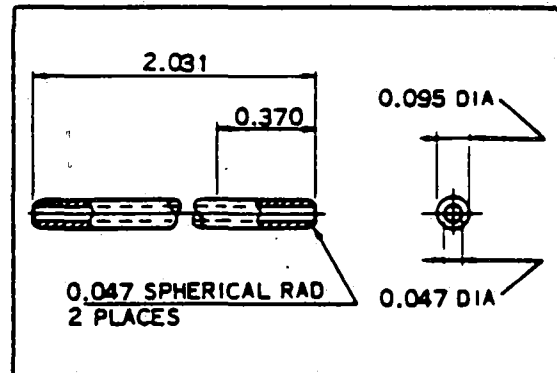

Figure 8A-23. Needle
13. Insert Scintilla 11-7073 Needle (Refer to Figure 8A-23) thru small hole of grommet and over stripped end of wire. (Refer to Figure 8A-25.) Slide grommet down needle until it seats tightly against the tapered ferrule.